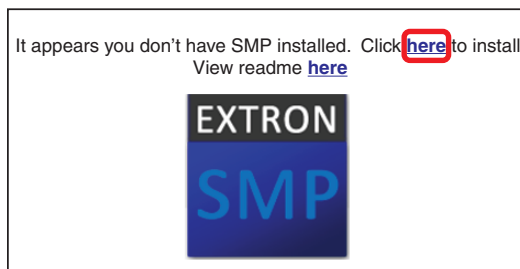

Figure 30. Live View Page – Media Player Installation Prompt
- When the SME 100 is first powered on, the prompt shown in figure 30 on page 51 may appear if a media player has not yet been installed. For information on installing media players, see "**Installing Media Players**" on page 51. For information on selecting a media player, see the "**Live View Settings Page**" section on page 98.
- ① **Play icon** — This icon is located in the middle of the player window and is used to play live streaming media.
- ② **Play and Stop button** — This button is used to play and stop live streaming media.
- ③ **Volume mute button** — This button is used to mute and unmute the audio volume.
- ④ **Volume control** — This slider bar is used to adjust the audio volume.
- ⑤ **Stream playback timer** — This timer displays the amount of time the user has been streaming live media. Playing a live stream activates the timer. Pressing the **Stop** button stops the timer and the total streaming time is displayed.
After connection to the SME 100, the Live View page may display the following prompt (firmware version 2.0) if a media player is not installed on the control PC or viewing device (see figure 30). Select the first **here** link.
- If the link shown in figure 30 does not appear on the Live View page or a blue player window with Extron logo is displayed (see **figure 28** on page 48), a media player is already installed.